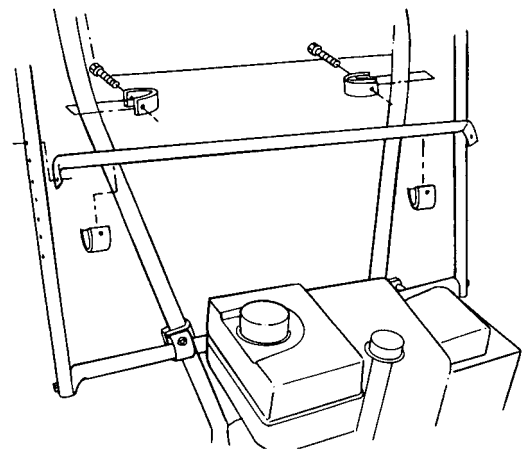

FIGURE 6
- 17" - 19" from the ground use hole (A).
- 19" - 21" from the ground use hole (B).
- 21" - 23" from the ground use hole (C).
STEP 5; SEE FIGURE 6:
STEP 6; SEE FIGURE 6: